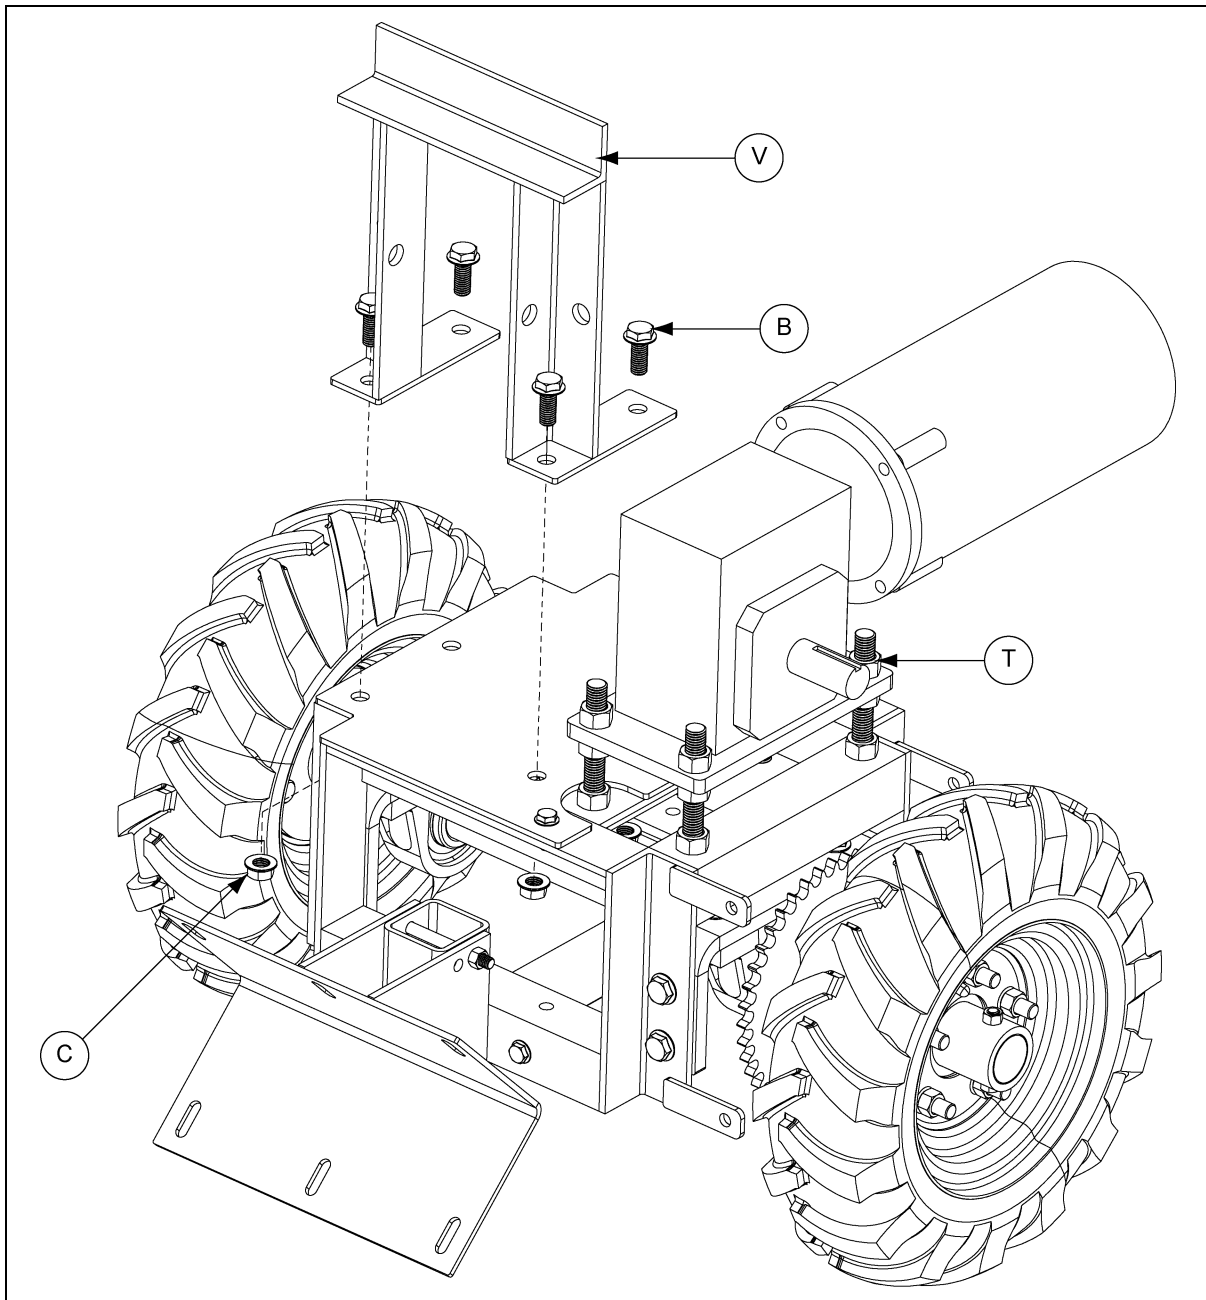

Figure 4H
14. Mount the gearbox plate and motor assembly to the 5/8"-11 x 6" threaded rod installed to the tractor frame using four (4) 5/8"-11 hex nuts (T).
15. Attach the weight stand (V) to the weight plate and tractor frame with four (4) 1/2"-13 x 1-1/4" flange bolts (B) and serrated flange nuts (C). (See Figure 4H.)